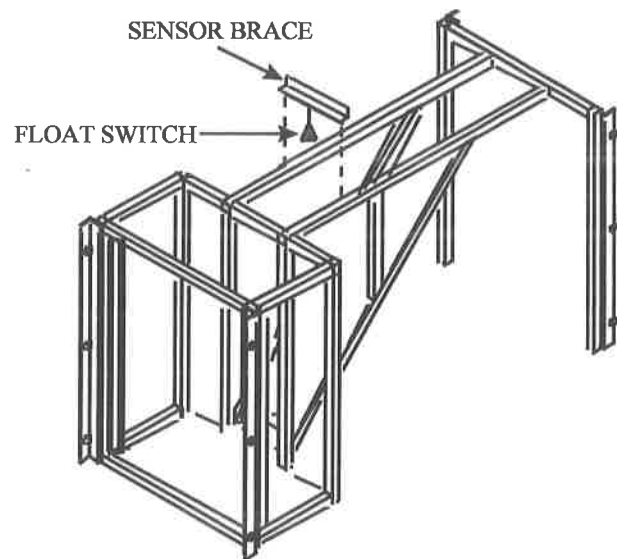

FIGURE 2-6. FLOAT SWITCH INSTALLATION
- L. Install the float switch for the timer-based run scheme on the frame at the location defined for the installation. Refer to Figure 2-6.